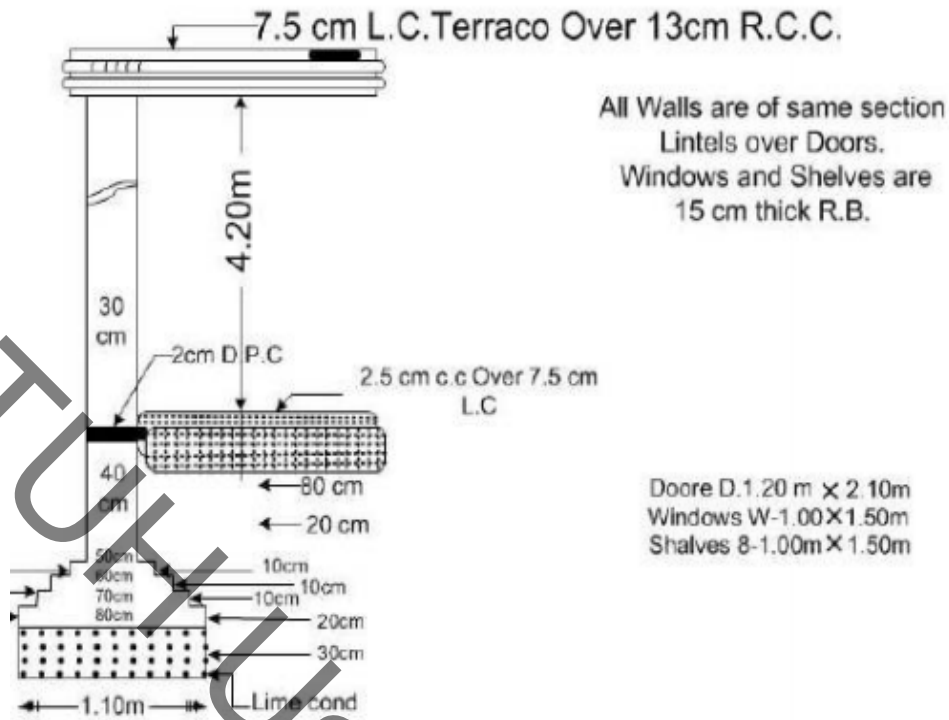

Figure 1
2. Calculate the quantities of the following items for the building shown in **figure 1**, below using long wall and short wall method: (a) Earth work in excavation. (b) Brick work in foundation and plinth. (c) PCC (1: 5: 10) below the foundation. (d) Damp proof course. (e) Brick masonry in CM (1:6) for super structure. [10]